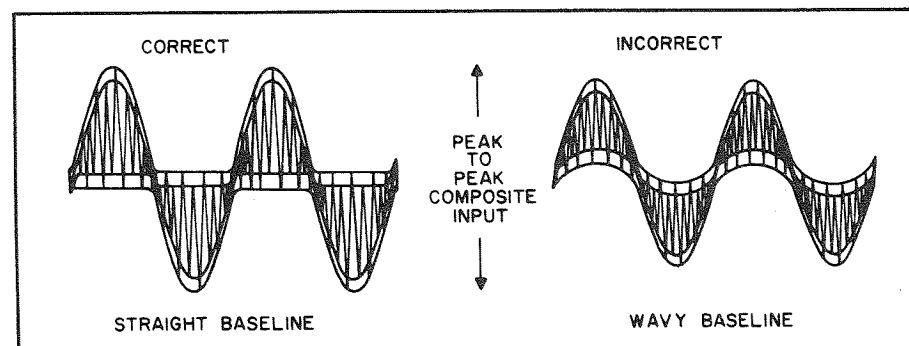

Figure 8. Composite Input To Multiplex Decoder.
- (1) Disconnect the jumper lead going to pin 4A (on FM IF, MPX, METER board) and connect the output of the multiplex generator through a 15k resistor to pin 4A.
- (2) Connect DC VTVM to Test Point 403 (on FM IF, MPX, METER board). Connect the vertical input of the scope to pin 4A.
- (3) Set MPX generator for 19 kHz pilot carrier output only. Adjust pilot level for approximately 120 mV peak-to-peak input at pin 4A.
- (4) Adjust cores of Z401 and Z402 (on FM IF, MPX, METER board) for maximum reading on DC VTVM (2.5 to 4 VDC).
- (5) Connect output of audio generator, set for 1 kHz, to the external modulation input of MPX generator and to the external sync input of an oscilloscope. Adjust audio generator level for 1.2 volts peak-to-peak composite MPX input (10% pilot, 90% audio). See Figure 8. Modulate right channel only. Proceed with steps (5) through (10) of PREFERRED ALIGNMENT PROCEDURE.
- (6) Reconnect the jumper lead going to pin 4A (on FM IF, MPX, METER board) removed previously.